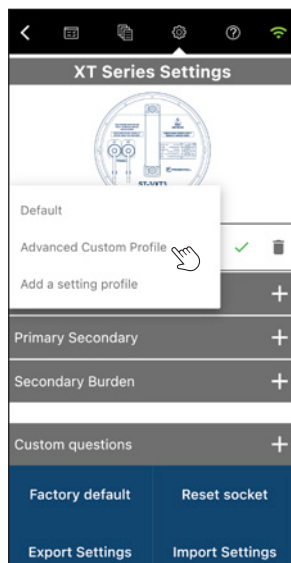

Figure 2
- Select a profile:** Click the drop-down menu and select the name of the needed profile (Figure 2).